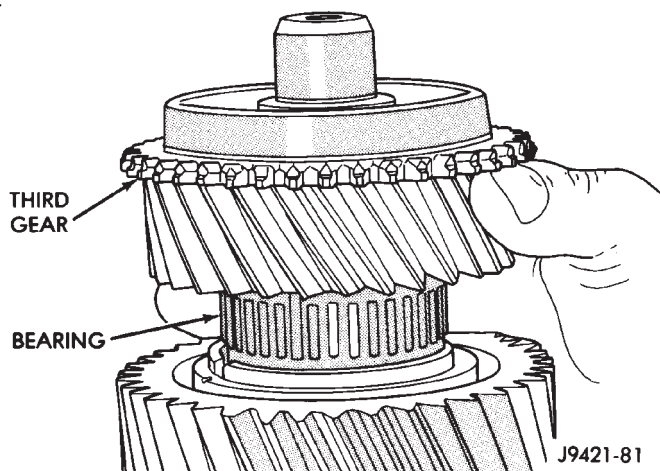

Fig. 74 Installing Third Gear
(28) Install third gear on shaft and bearing (Fig. 74).